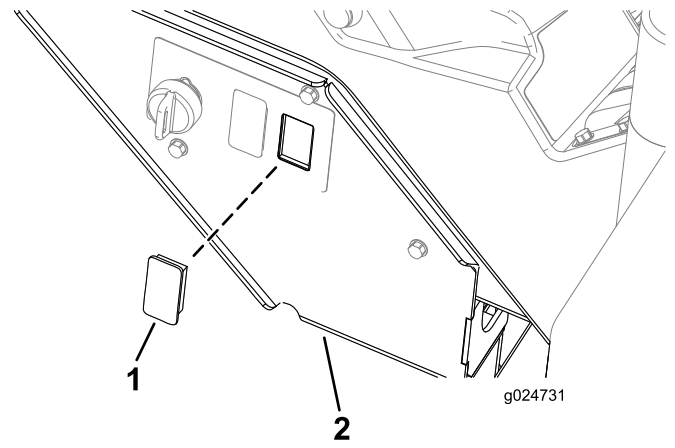

Figure 42
- Remove the hole plug for the hazard switch from the control panel on the side-console mount (Figure 42).